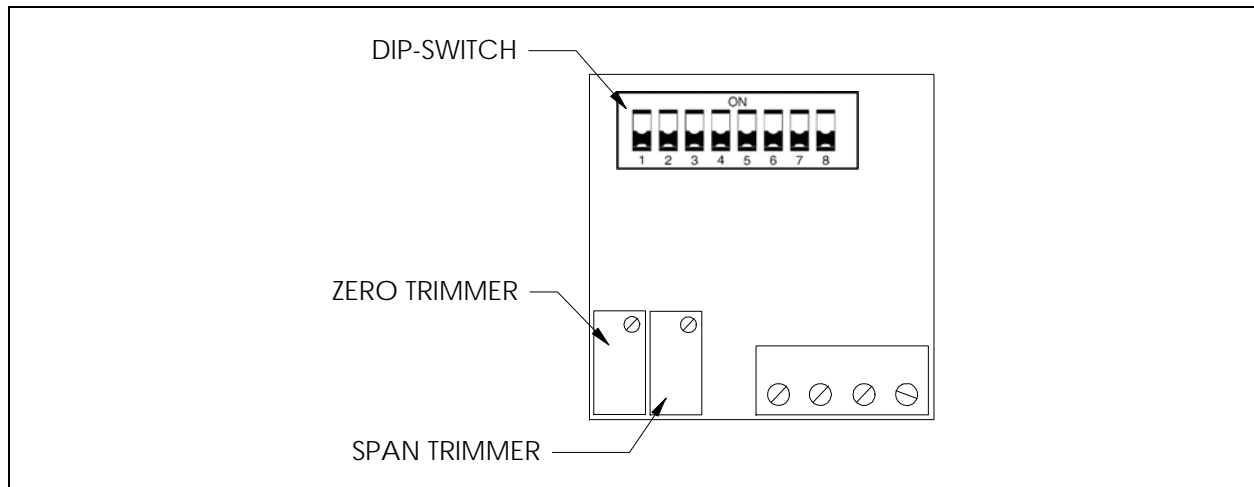

Figure 5-2 Back View of Gas Concentration Display
The display needs to be configured to the required gas range. On the back side of the display, there are 8 DIP-switches (Figure 5-2). The first 4 switches control the range and 6, 7 and 8 controls the placement of the decimal point (switch 5 is not used). In Table 16 below, common gas ranges are listed with the corresponding DIP-switch selection. For decimal point placement, only one of the switches (6, 7 and 8) can be ON at once. The selected gas range must be calibrated to display accurate values by adjusting the Zero and Span trimmers (Figure 5-2). A test transmitter with 4-20 mA output is required to simulate zero and full scale outputs. Follow the steps below for proper setup.
2. Set Zero and Span trimmers fully clockwise, refer to Figure 5-2.